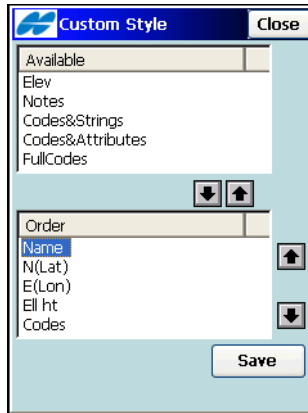

Figure 4-18. Custom Style
- **Edit (Format)** – edits an existing file format. The *Custom Style* screen displays (Figure 4-18 on page 4-17).
- **Add (Format)** – adds a new file format. The *Custom Style* screen (Figure 4-18 on page 4-17) displays.
On the **Custom Style** screen (Figure 4-18), using the arrows, move items at the bottom of the *Available* column to the *Order* column and arrange in the preferred order with the *Up* and *Down* arrows to the right of the *Order* column.